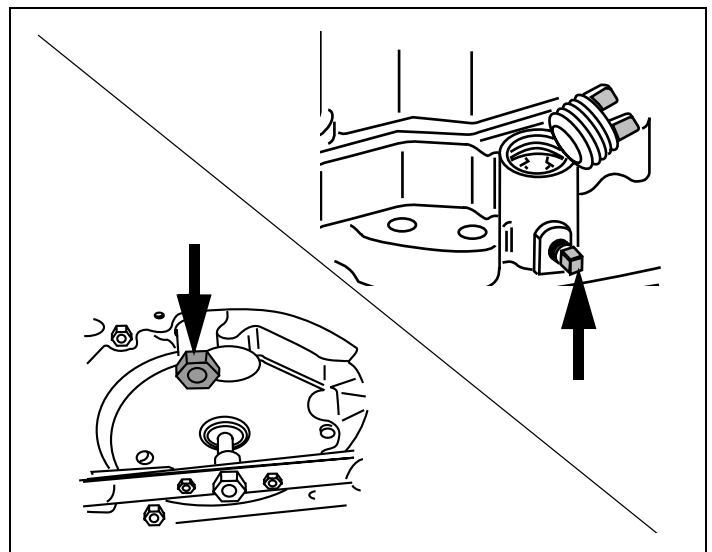

Figure 41. Oil Drain Plug Locations
3. Be sure you find the correct oil drain plug location (see equipment manufacturer's instructions). See Figure 41.